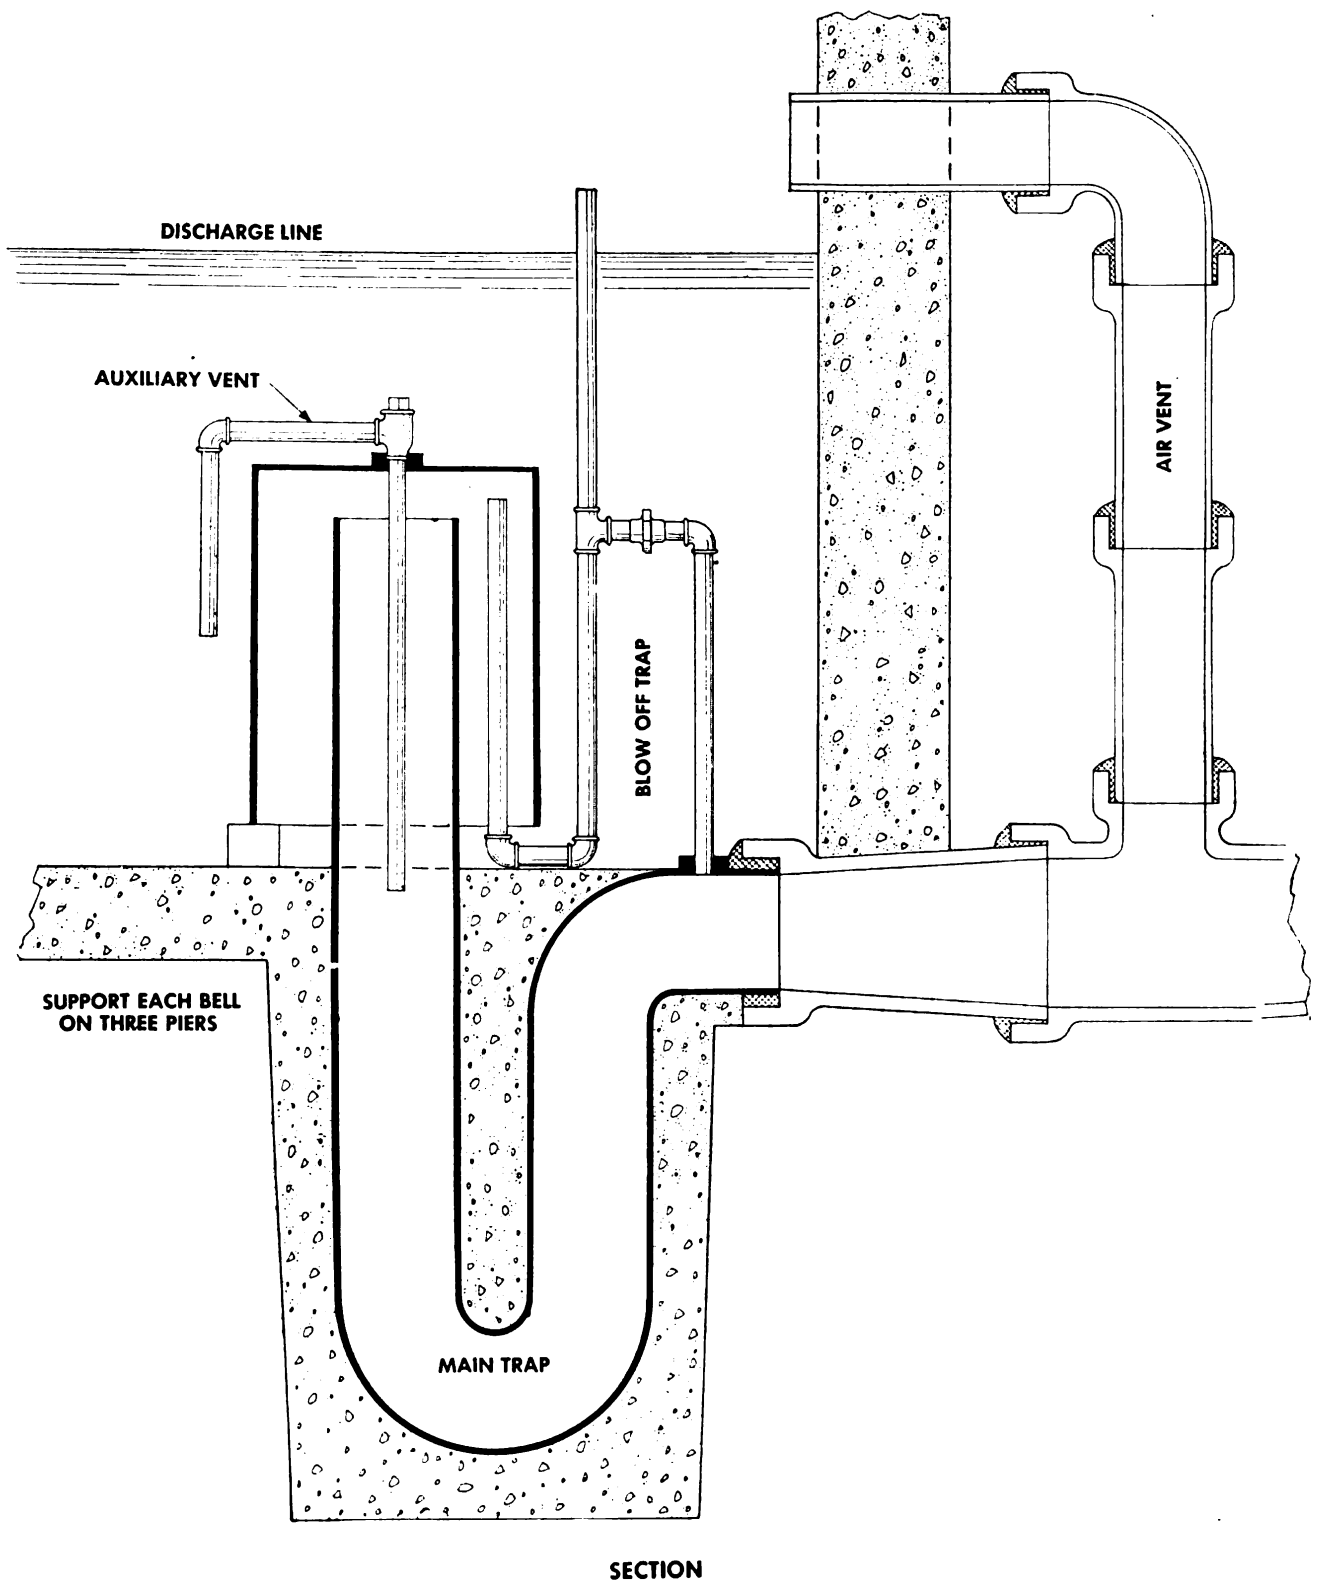

Figure 42. Dosing siphon.
73. Pacific Flush Tank Type Siphons (fig. 42)